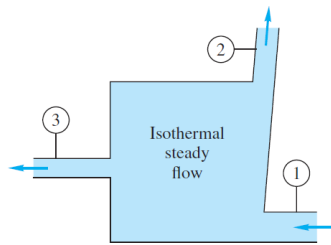

Fig. 3.24
3.24 There is a steady isothermal flow of water at 20°C through the device in Fig. 3.24. Heat-transfer, gravity, and temperature effects are